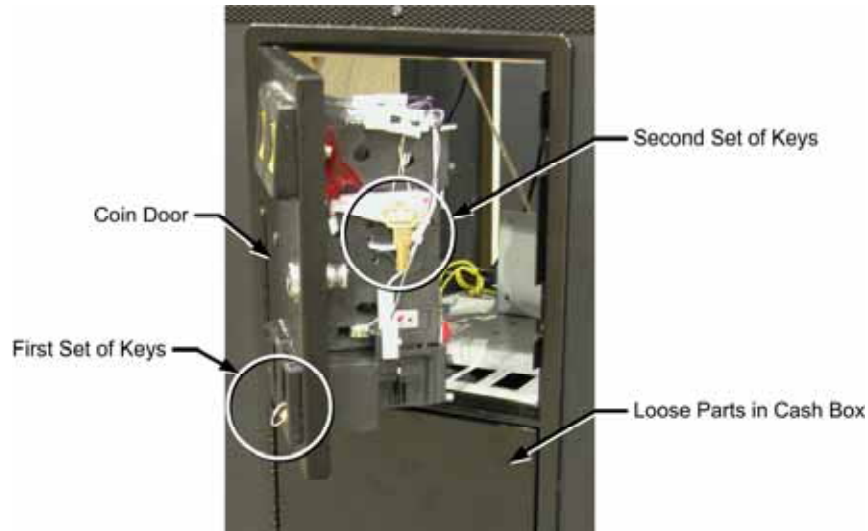

Figure 2. Coin Door with Key Locations
2. Remove the keys from the coin return slot. Open the coin door to locate the second set of keys (see Figure 2).